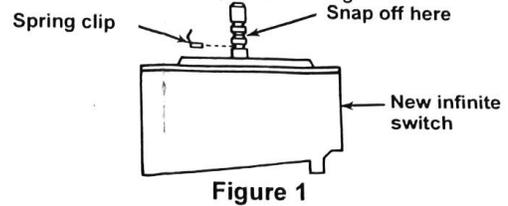

Figure 1
4. Remove spring clip from new stem and with a pair of pliers, snap stem off at indicated point. See Figure 1.
5. Replace spring clip in notch. See Figure 1.